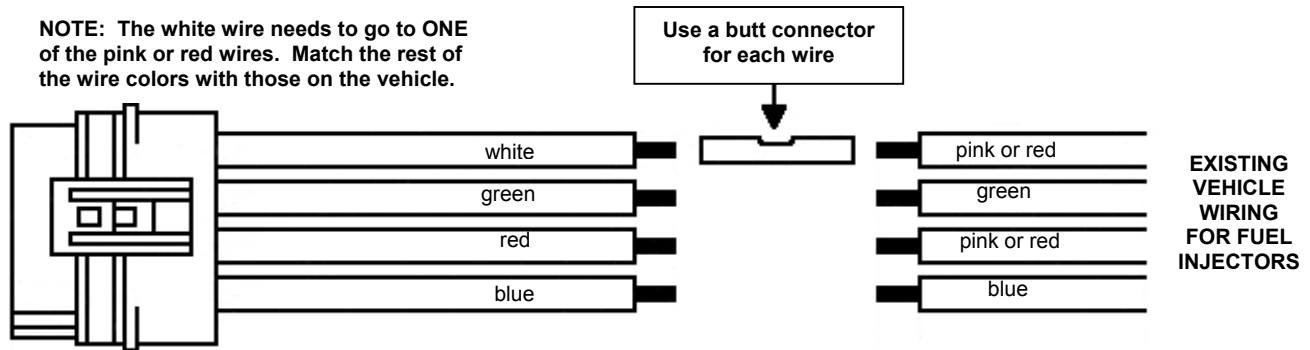

Figure 3
4. Cut the (4) injector wires about 12" from the factory injector connectors. Strip 1/4" of the insulation from the wires left on the vehicle. Connect these to the wires on the harness adapter assembly by using the butt connectors provided. The white wire needs to go to ONE of the pink or red wires. MATCH the remaining wire colors with those on the vehicle. Push the connector with wires into the mating connector on the throttle body. See Figure 3.
5. Cut the (4) injector wires about 12" from the factory injector connectors. Strip 1/4" of the insulation from the wires left on the vehicle. Connect these to the wires on the harness adapter assembly by using the butt connectors provided. MATCH the wire colors with those on the vehicle. Push the connector with wires into the mating connector on the throttle body.